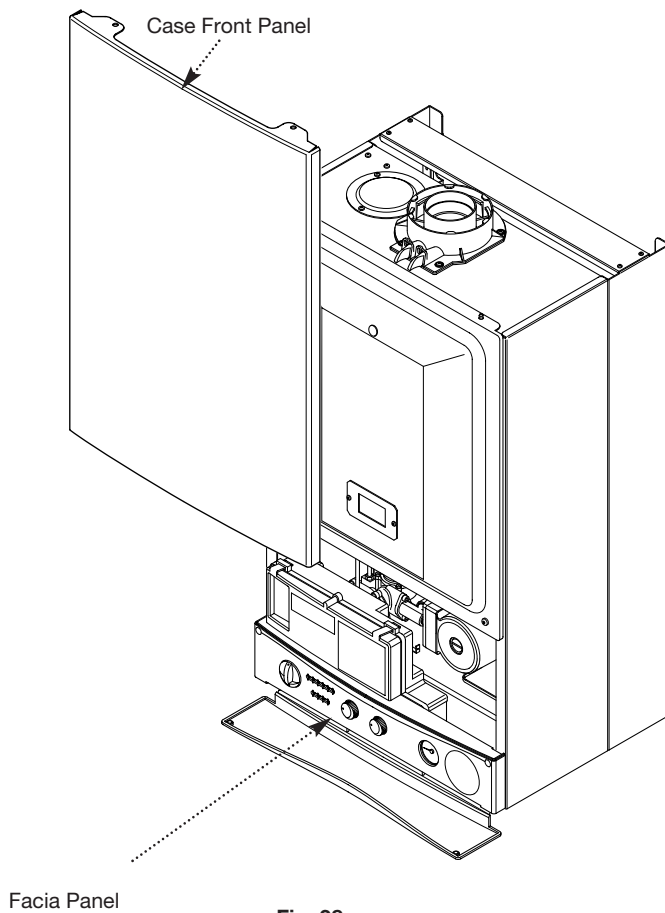

Fig. 38
1. Hinge the facia panel upwards and refit the case front panel. Tighten the securing screws (Fig. 38).